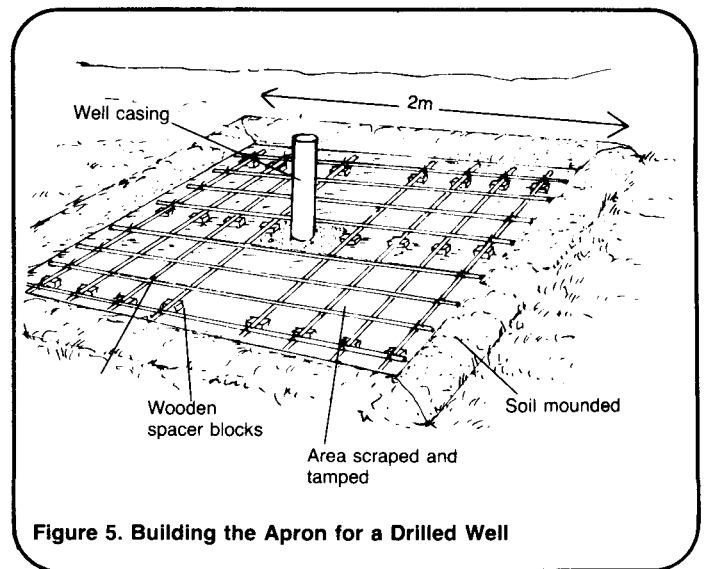

Figure 5. Building the Apron for a Drilled Well
2. Lay 1.9m-long re-rods in a grid pattern in the area. Space the re-rods about 250mm apart, tie them together with wire, and raise them up on 25mm high wood spacer blocks. See Figure 5.